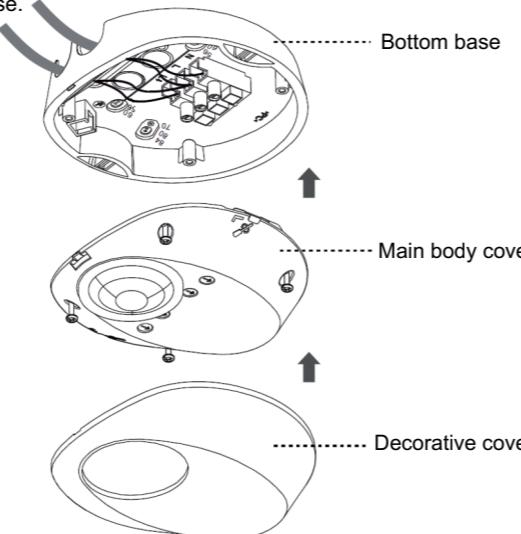

FIG. 12
3.4.1.6 Refer to the wiring diagrams (See FIG.4 - FIG.6) for correct cable connections and refer the FIG.12 to assemble detector with the bottom base.
3.4.2.4. Refer to the wiring diagrams (See FIG.4 - FIG.6) for correct cable connections and refer the FIG.12 to assemble detector with the bottom base.